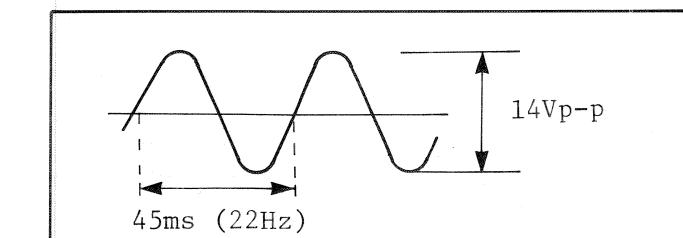

Fig. 29
- (1) Set oscilloscope to 10ms/cm, 2V/cm.
- (2) Adjust LFO RATE VR1 for 45ms. (Fig. 29)
- (2) Adjust DCO LFO GAIN VR2 for 14Vp-p. (Fig. 29)